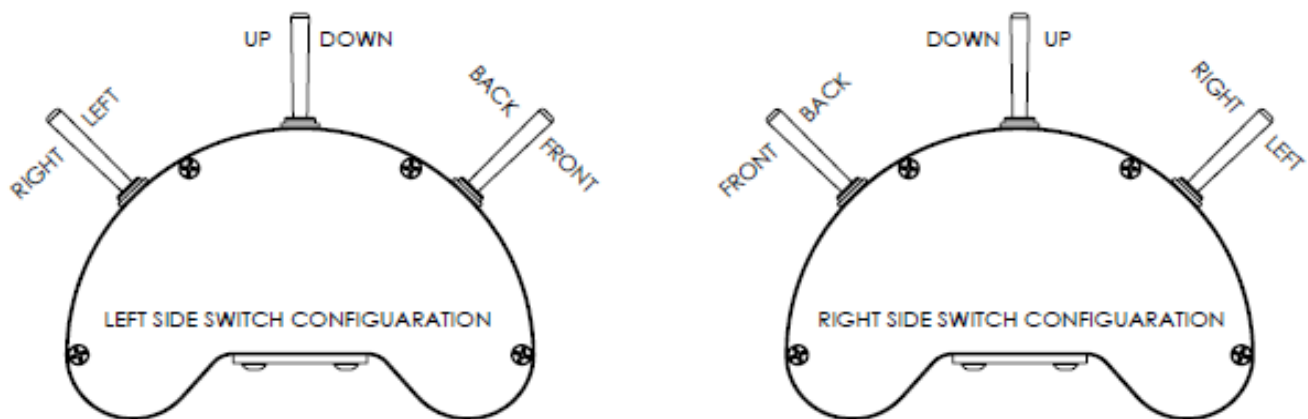

Figure 1.4
- 4.) Remove the old directional stickers from the switches and reapply new ones (SEE: Figure 1.4).